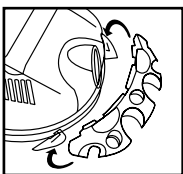

FIGURE 10
11. With rear of unit facing you, take tool holder and position it with tabs facing rear of unit. **FIGURE 10.**